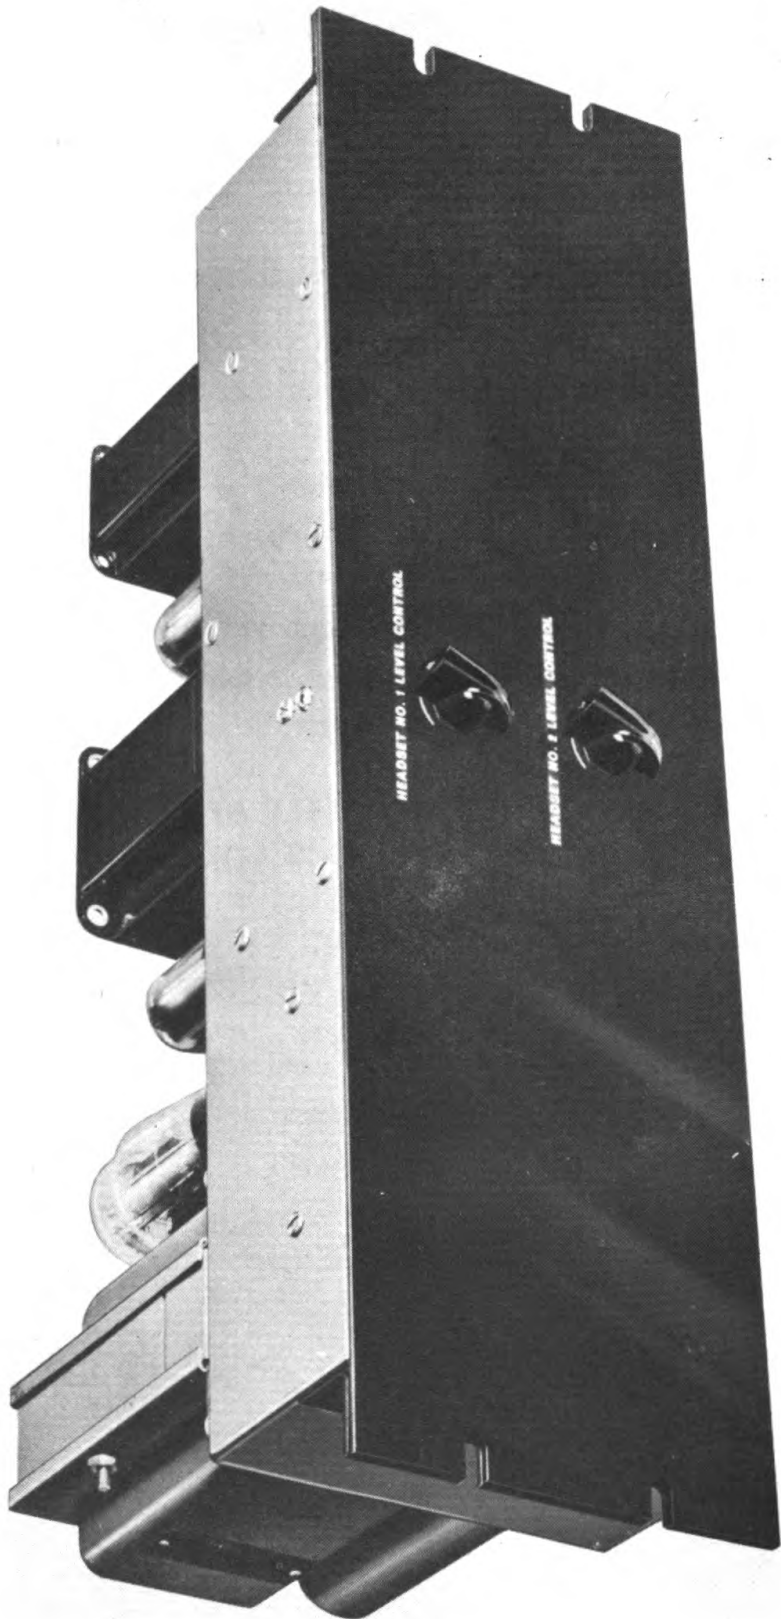
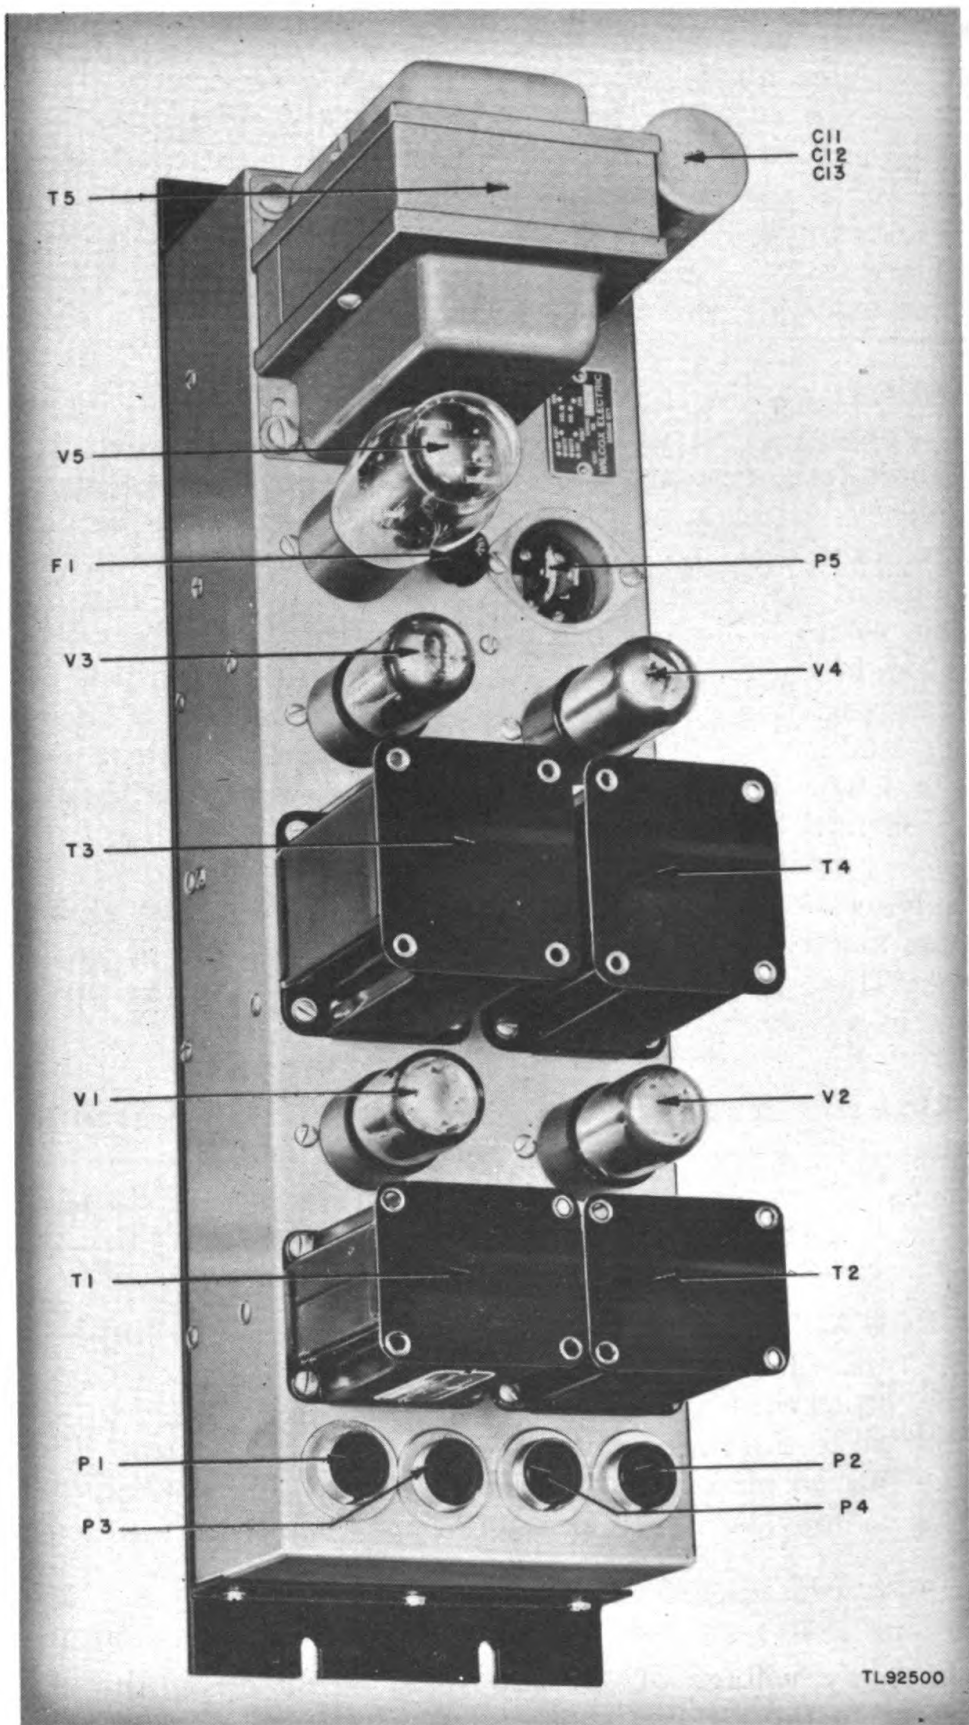
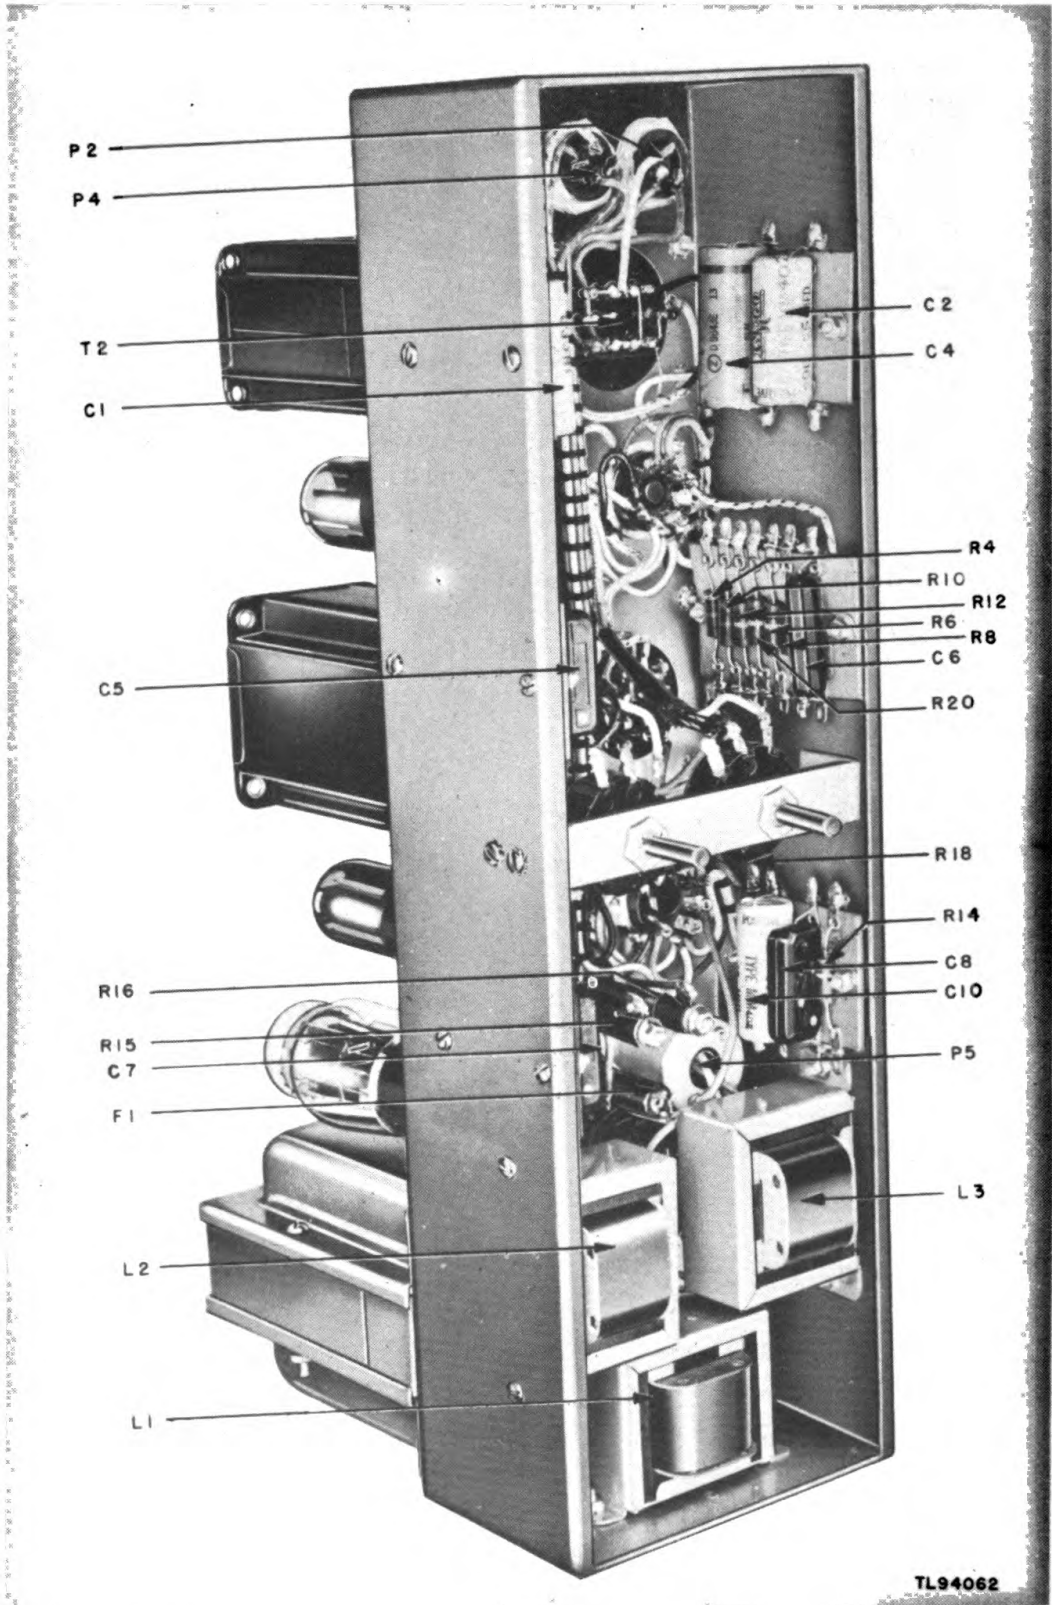
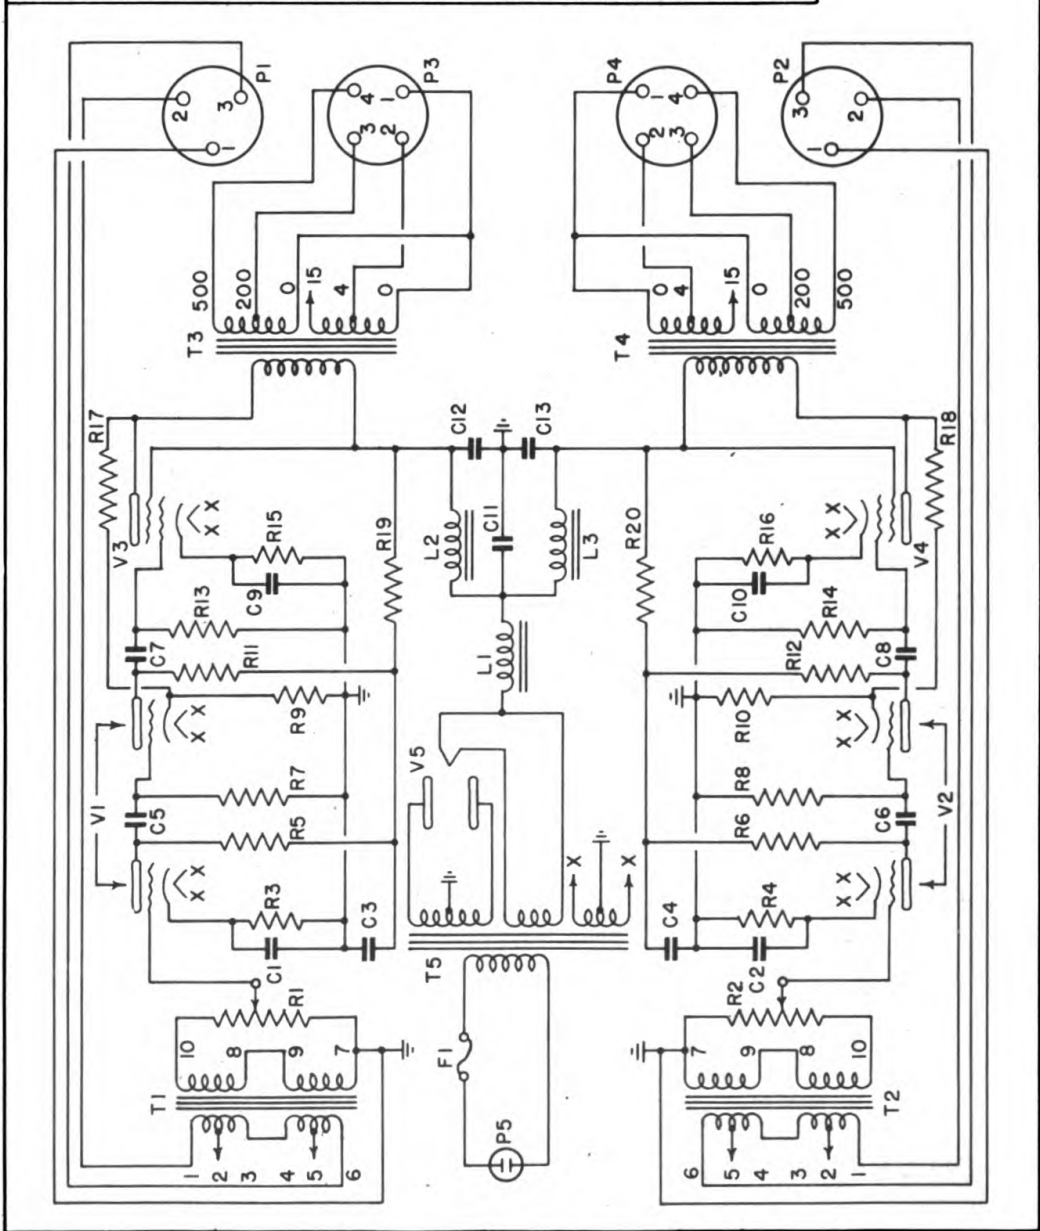

Figure 1. Dual Channel Amplifier AM-43/FRC, front view.
Figure 2. Rear view of amplifier.
Figure 3. Top front interior view, panel removed.
Figure 5. Schematic diagram.
a. Purpose. Dual Channel Amplifier AM-43/FRC (fig. 1) is an audio-frequency amplifier designed to amplify two speech-frequency channels or tone circuits in the speech-frequency range. Low-level signals, which may pass undetected without the use of the amplifier, may be amplified by this unit to a usable volume. The amplifier is constructed so that both channels can be used simultaneously. This unit is designed primarily for amplification of low-level signals from telephone lines or other similar long transmission lines. It operates into a headset or loudspeaker circuit attached to the output terminals of each channel.
b. It is constructed on a sheet-metal chassis (fig. 2) 17- $\frac{1}{4}$ inch long x 10 inch wide x 3 inch deep. Holes have been made in the ends of the chassis (fig. 3) for the installation of mounting angles by which the chassis may be attached to the special panel provided.
c. With the amplifier and panel mounted in a relay rack, the power plug, input, and output plugs are accessible at the back of the unit (fig. 2). The vacuum tubes are mounted in a horizontal position and are also accessible from the rear of the unit. The headset level controls are mounted on a bracket and may be reversed with the shafts projecting out the back of the unit the same as the vacuum tubes and plugs. Holes have been provided to permit this reversal (fig. 3)
The 112A-11 relay-rack panel has been provided with the mounting angles noted in paragraph 3b above. These angles are rigidly attached to the panel. Sheet-metal screws (fig. 2) are provided for attaching the chassis to the panel. A level control shaft for adjusting the amplification of each channel projects through the panel. HEADSET NO. 1 LEVEL CONTROL is mounted above the HEADSET NO. 2 LEVEL CONTROL at the middle of the panel (fig. 1).
b. Apply voltage of 110/120 volts, 50/60 cycle, alternating current to the a-c line connector plug (fig 2) (P5)). Separate the input leads to the amplifier from the output leads to prevent
a. Connect leads from headsets or loudspeakers to the output receptacles (fig. 2 (P3 and P4)) on the amplifier, if both channels are to be used. A single channel may be used if desired. The leads should terminate in male plugs to fit the female output receptacles of the amplifier.
b. Connect leads from the transmission lines to the input receptacles (fig. 2 (P1 and P2)) of the amplifier, using plugs listed in paragraph 8d below.
c. Connect an a-c power source to the amplifier. A power cord terminating in a female receptacle (paragraph 8d) is required to fit the male plug (fig. 2 (P5)) which serves as the power input to the amplifier. The vacuum tubes should light and plate voltage be available as soon as this connection is made. There is no switch in the circuit.
d. Turn the level controls (fig. 1) clockwise until the signals from the two channels are received at the desired amplitude on the headsets or loudspeakers.
8. AMPLIFIER CIRCUITS (fig. 5).
(1) For connection to P1.	Audio Input, Channel 1.	Amphenol MC3M
(2) For connection to P2.	Audio Input, Channel 2.	Amphenol MC3M
(3) For connection to P3.	Audio Output, Channel 1.	Amphenol MC4M
(4) For connection to P4.	Audio Output, Channel 2.	Amphenol MC4M
(5) For connection to P5.	Power Input.	Harvey Hubbell 6630
9. POWER SUPPLY (fig. 5).
c. The amplifier is protected by a fuse, F1, in one side of the primary power source (fig. 5). It is mounted in a fusewell-type holder and is readily accessible from the back of the amplifier (fig. 2).
For maintenance due to component failure, remove the amplifier from the relay-rack installation. Disconnect all connector plugs before loosening the supporting screws through the front panel slots. Then loosen the retaining set screws in the control knobs (fig. 1) and remove the knobs from the shafts. Remove the three screws at each end of the chassis (fig. 2). This will allow the 112A-11 panel to be removed, exposing the interior of the amplifier for servicing. Reassemble in reverse order.